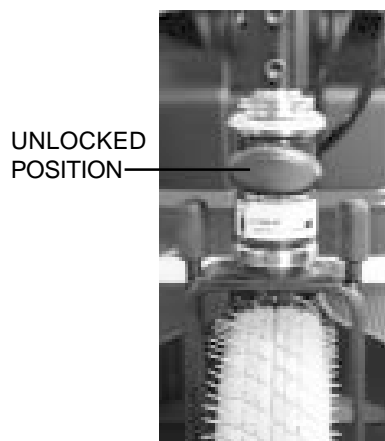
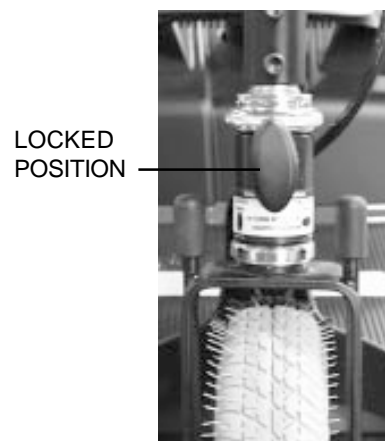

Figure 12. Tiller Lock Knob (Unlocked)
Figure 12A. Tiller Lock Knob (Locked)
1. From the unlocked position (see figure 12), lock the front wheel by pushing the tiller lock knob in and turning it clockwise 90°. See figure 12A.
9. Unlock the front wheel by turning the tiller lock knob 90° counterclockwise. See figure 12.